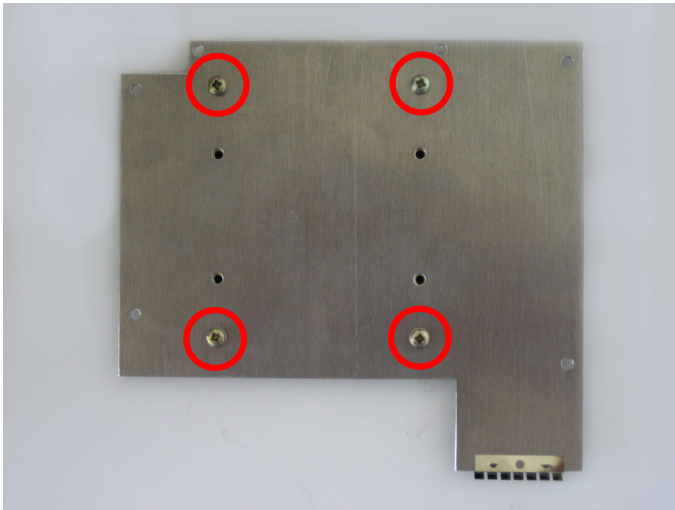

Figure 3-12 Fastening screws of the 2.5" flash disk
- ❑ Loosen the screws on the rear side of the carrier plate, in order to detach the 2.5" flash disk (see Figure 3-12).